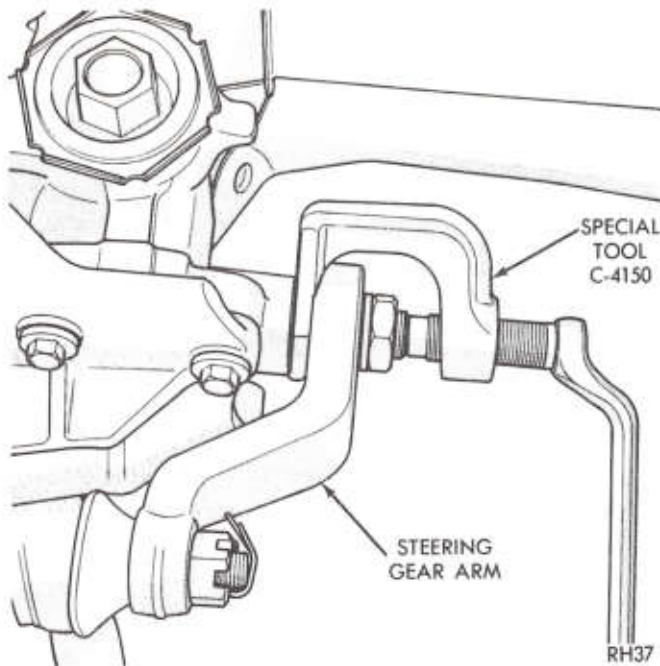

Fig. 3—Remove Steering Gear Arm
(1) Disconnect and remove steering gear arm from sector shaft using Tool C-4150 (Fig. 3).
(2) Remove horn pad.
(3) Loosen sector shaft adjusting screw locknut, and back out adjusting screw 1/2 to 2 turns. This will relieve any friction load which may be present at the
Tool C-4150 (Fig. 3).